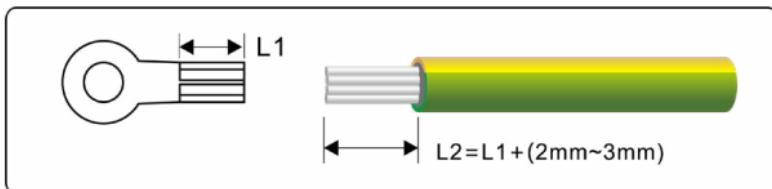

Figure 5.1 Stripped length (unit: mm)
**Step 1** Remove an appropriate length of the insulation layer from the PGND cable using a wire Stripper; the length is a little bit longer than that of OT terminal's crimping end by 2mm~3mm, as shown in **Figure 5.1**.